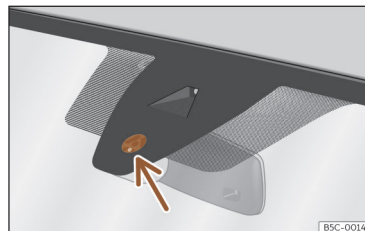

Fig. 110 Sensitive surface of the rain sensor.
The possible causes of anomalies and erroneous interpretations in the sensitive surface area >>> Fig. 110 of the rain sensor are, among others:
- **Dirt:** dry dust, wax, coating on glass (Lotus effect) or traces of detergent (car wash) may reduce the effectiveness of the rain sensor or make it react more slowly, later or not at all. Regularly clean the sensitive surface of the rain sensor >>> Fig. 110 (arrow) and check for possible damage to the wiper blades.